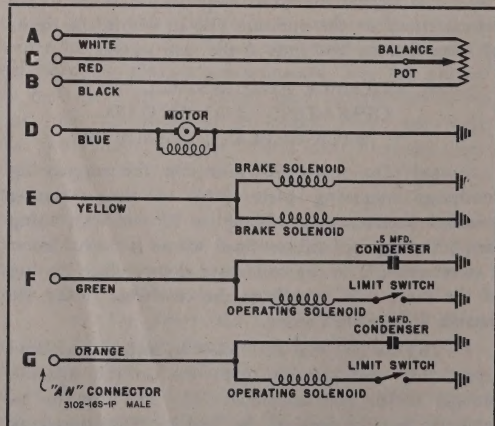

Figure 355 — Wiring Diagram
(12) CONNECT WIRES.—Make connections in accordance with wiring diagram, figure 355.